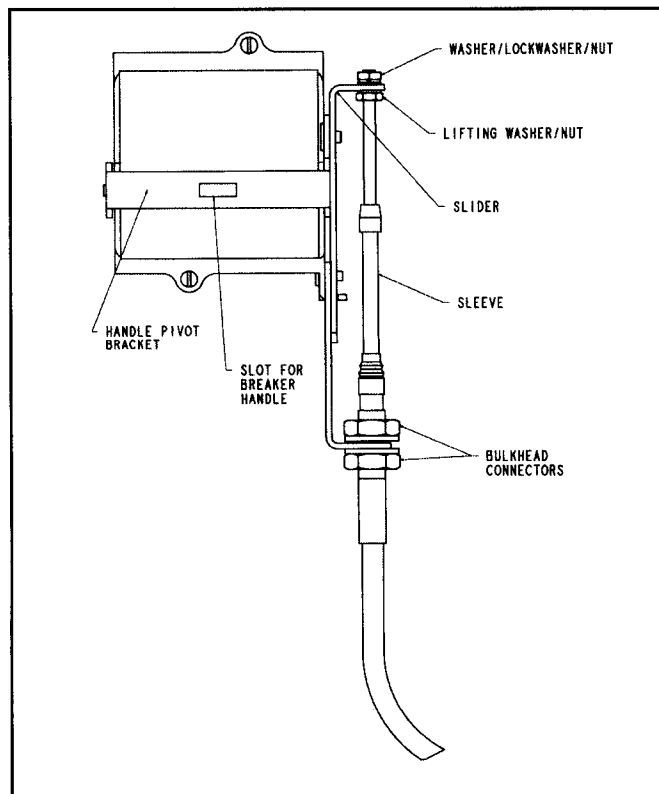

Fig. 1-3 H-Frame Actuator Mechanism
The Flex Shaft handle mechanism provides a means of externally operating the circuit breaker and can be applied to enclosures of varying heights and depths. The handle can be used with NEMA 1, 3R, 4, 4x, and 12 enclosure applications, depending on the accessory components selected. An operating handle, flexible shaft, and mechanism are required for standard application. Eight lengths of shafts are available for use with the wide range of depths of various enclosures (3' through 10'). When selecting the length of the Flexible Shaft, ensure Minimum Bending Radius of 4 inches is maintained to operate properly. The standard method of shipment includes the mechanism preset at the factory. If minor field adjustments are required, see Fig. 1-3. For this publication, the term circuit breaker shall also include the molded case switch and motor circuit protector (HMCP).
In the event a customer must disassemble the preassembled Flex Shaft handle mechanism, the procedure listed below must be followed before continuing with the "Installation" instructions. (See Fig. 1-3).
- H. Check operation of mechanism for ON, OFF, and reset. Check the reset position of the actuator mechanism, that the lifting nut and sleeve of shaft do not come in contact with each other (see Fig. 1-3). If they do, move bulkhead connectors accordingly. If mechanism functions incorrectly, repeat procedure or go to Adjustment Checklist.
Loosen the lifting washer/nut while tightening the washer/lockwasher/nut, two or three turns should be sufficient (see Fig. 1-3).
**Note:** Check the reset position of the actuator mechanism, so that the lifting nut and sleeve of shaft do not come into contact with each other (Fig. 1-3)
Loosen the washer/lockwasher/nut on the end of the shaft while tightening the lifting washer/nut until breaker turns on with positive action. Tighten both nuts and recheck for ON, OFF, and Reset positions (Fig. 1-3).
**Note:** Be certain after adjustment to have a minimum of 1 thread past the washer/lockwasher/nut assembly (Fig. 1-3).